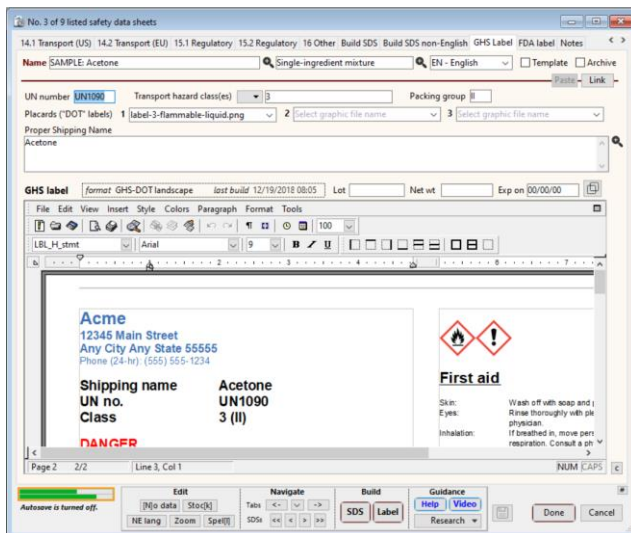

Figure 34: Generated label in the word processing area, "Label" tab of the SDS entry form.
1. Click on “Label” tab of the SDS data entry form (Figure 34).